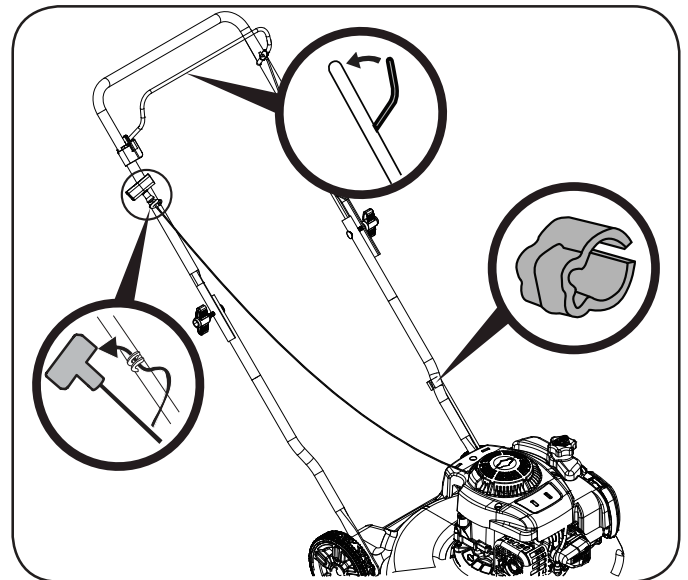

Figure 6
1. Hold the blade control against the upper handle (Figure 6).
2. Slowly pull starter rope handle from engine and slip starter rope into the rope guide (Figure 6).
3. Use the cable clamp to secure the control cable to the handle (Figure 6).